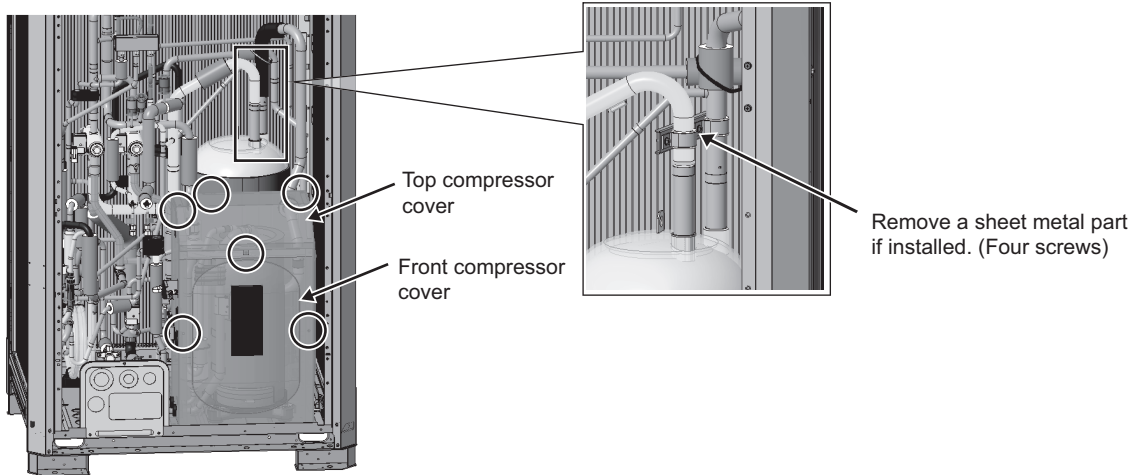

Fig. 1
(1) Remove the front and top covers of the compressor. (Six screws: Fig. 1)